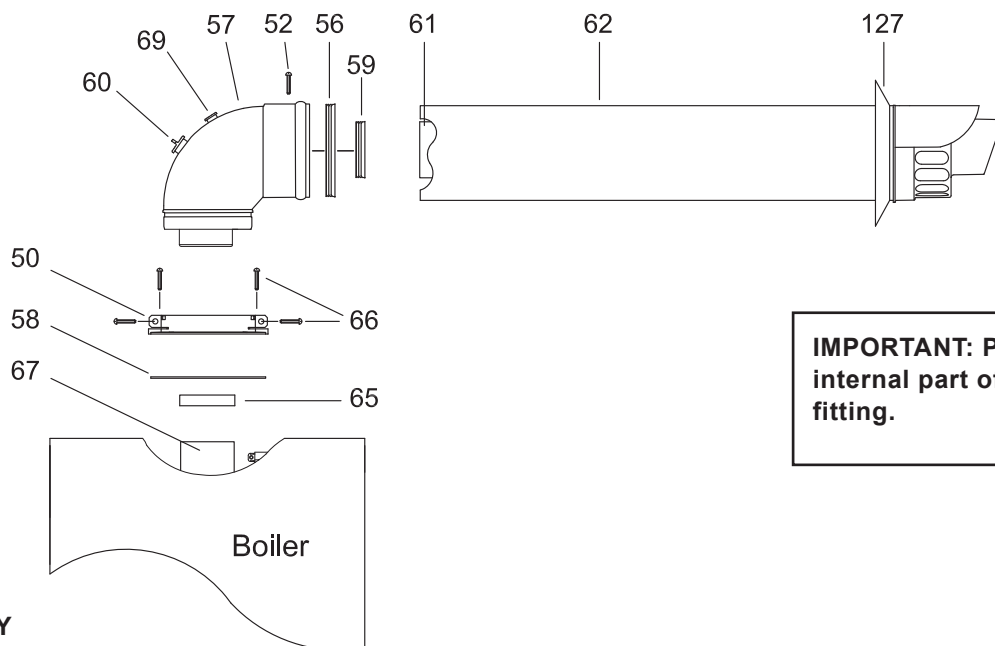

Fig.17
(Fig 17 item 65)**
If an extension must be shortened, this must be done from the straight end, and not from the widened or tapered end. To measure the pipeline properly all components must be assembled and total length measured before cutting. The straight end of the extension connects to the boiler. The flue output and air intake pipes fits into the boiler header until it stops (fig.17 - 18).